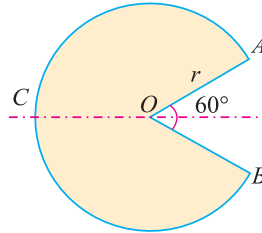

Fig. 6.26.
**Example 6.15.** A circular sector of angle  $60^\circ$  is cut from the circle of radius  $r$  as shown in Fig. 6.26 :